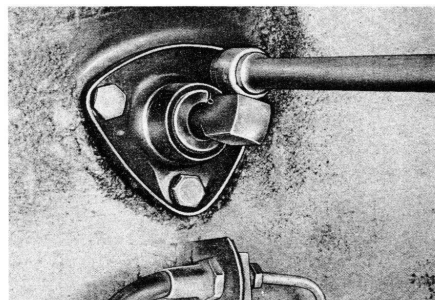

Fig. 50
2. Lightly tighten both bush supports, center the stabilizer, and torque hex bolts to 2, 5 mkp (18, 1 lb/ft). (see Fig. 50)